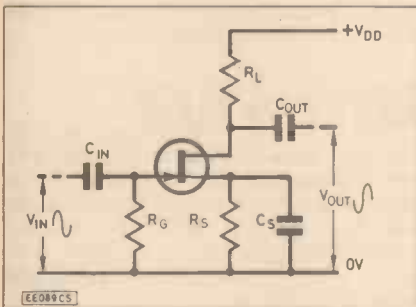

Fig. 6.6. Typical JUGFET amplifier stage.
A typical JUGFET amplifier is shown in Fig. 6.6. This should be compared with the equivalent arrangement for a bipolar transistor which was shown in Teach-In Part 4 (Fig. 4.8(c)). Readers will note that the only difference (apart from the symbol) is the absence of the base bias resistor, R_B .
6.2 An AF amplifier uses an n-channel JUGFET in the arrangement shown in Fig. 6.6. If the device operates with a drain current of $2.5mA$ and gate-source bias of $0.5V$, determine the value of source bias resistor, R_s . (e)